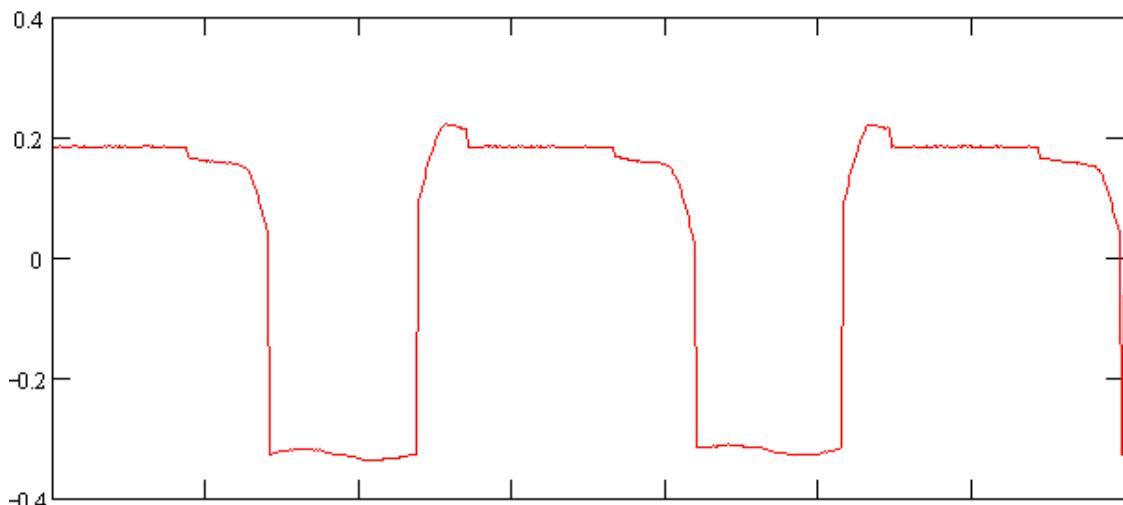

Figure 6.21 Typical Gfx signal trace.
- e) Remove the chopper box insulation. Connect a scope to TP1 (wrt TP5) on the signal processing PCB (1210/902). The trace should be stable and look like the trace shown in figure 6.21.